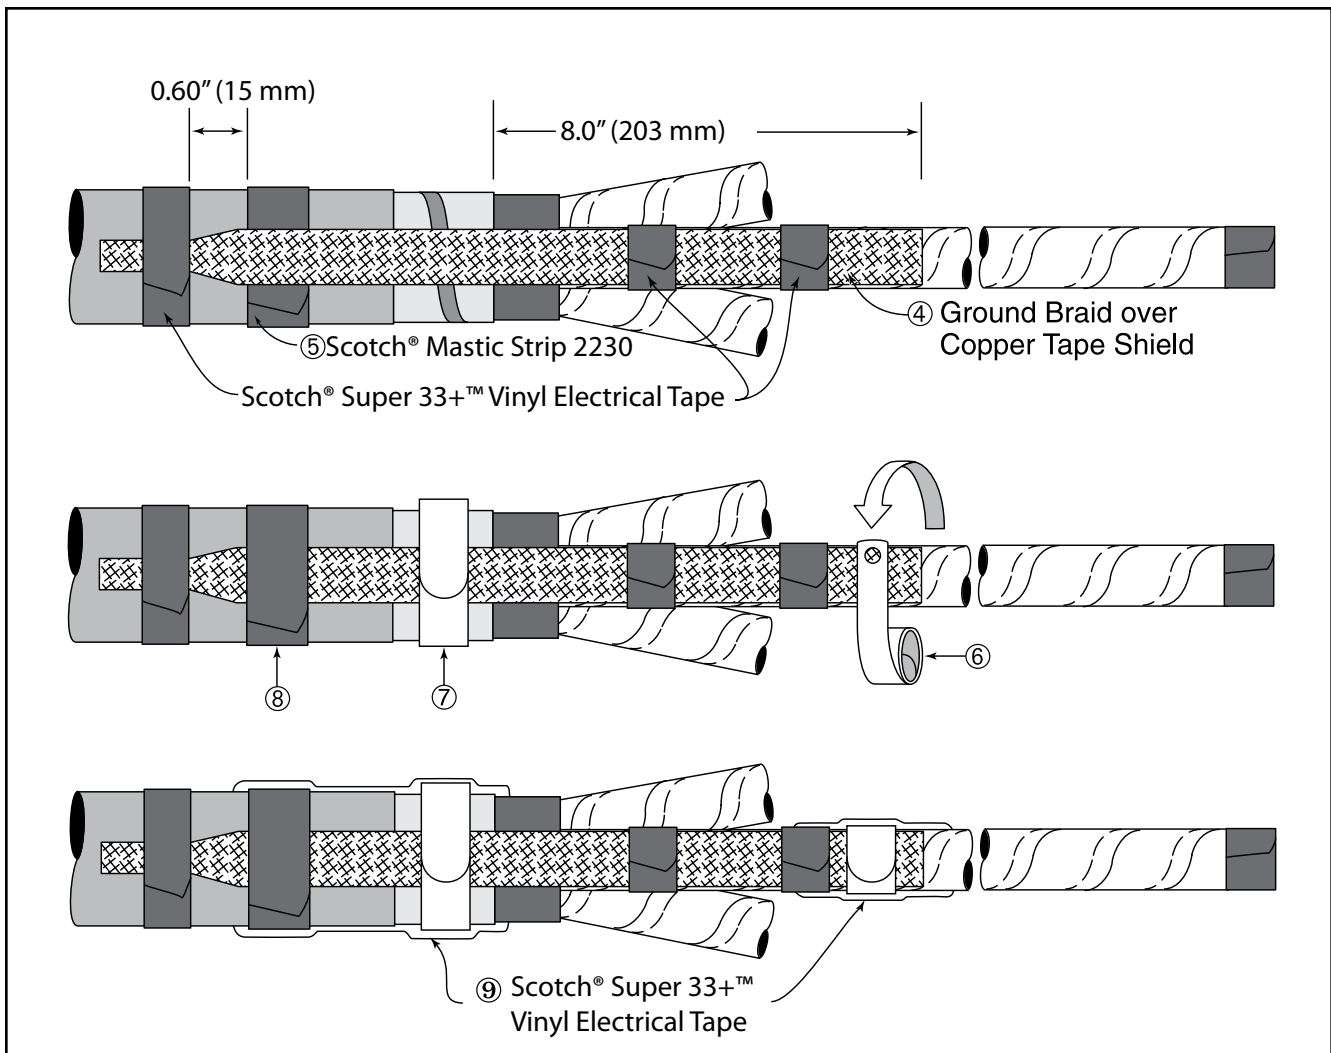

Figure 3
- 2.2 Position each expanded ground braid end over cable as shown in Figure 3. Using Scotch® Super 33+™ Vinyl Electrical Tape bands, secure upper braid end to copper tape shielding 8.0" (203 mm) beyond armor edge (jacket edge for non-armored cable) (④ Figure 3). Secure to cable jacket 0.60" (15 mm) below Scotch® Mastic Strip 2230 (⑤ Figure 3).
- 2.3 Connect ground braid upper ends to copper tape shield using small constant force spring (⑥ *Figure 3*). **Armored cables:** Connect three ground braids to cable armoring using one large constant force spring (⑦ *Figure 3*). Following application, cinch (twist with hand) each spring to tighten.
- 2.4 Apply a second Scotch® Mastic Strip 2230 over ground braids and previously-applied mastic strip (⑧ *Figure 3*).
- 2.5 Apply two highly stretched half-lapped layers of Scotch® Super 33+™ Vinyl Electrical Tape over Scotch® Mastic Strip 2230 strips and constant force springs (⑨ *Figure 3*).